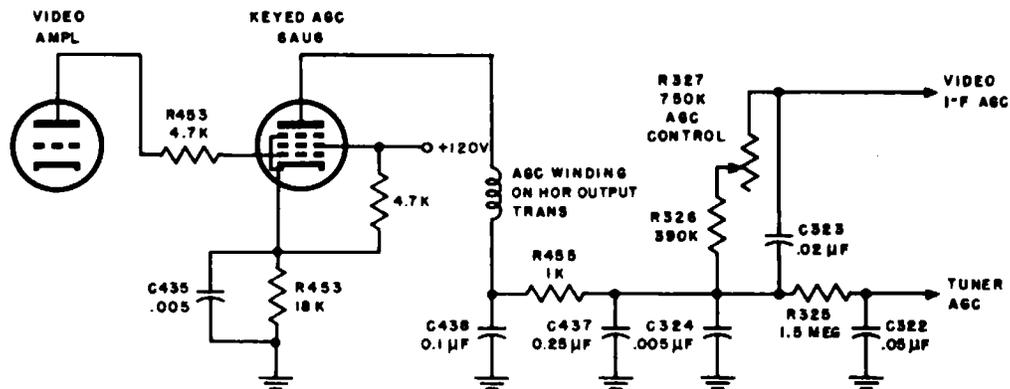

Fig. 5-4. Schematic of a typical keyed-agc circuit. After Westinghouse Electric Co.
**QUES. 5-4.** The cause of picture overload is diagnosed as an improperly functioning keyed agc circuit. In the typical agc circuit illustrated in Fig. 5-4, what general procedure should be followed to determine whether the keyed agc circuit itself is functioning properly?